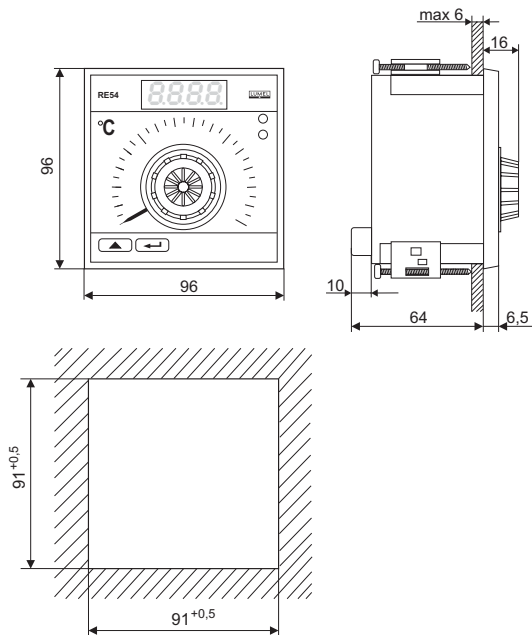
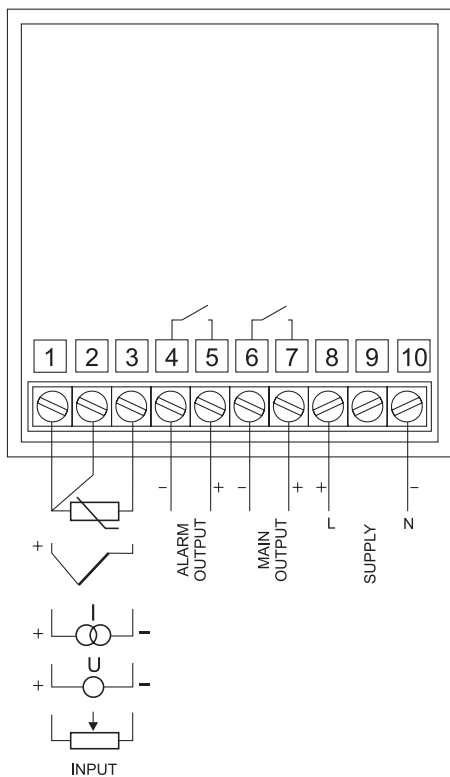

Fig.1. Overall controller dimension and panel cut-out dimensions
Fig.2. Electrical connection diagram
To fix the controller in the panel , one must prepare a 91 x 91 mm hole according to the fig.1. Introduce the controller from the front of the panel when the supply circuit is turned off and fasten it by means of holders, which are delivered together with the controller. Sensor leads, supply and load leads must be connected according to the fig.2. All connections must be made with accuracy after cleaning the lead ends. Leads connecting the controller with thermocouples should be in accordance with IEC standards. Interference levels practically occurring, often exceed values given in the standard and can
- make electrical connections of the controller according the fig. 2.